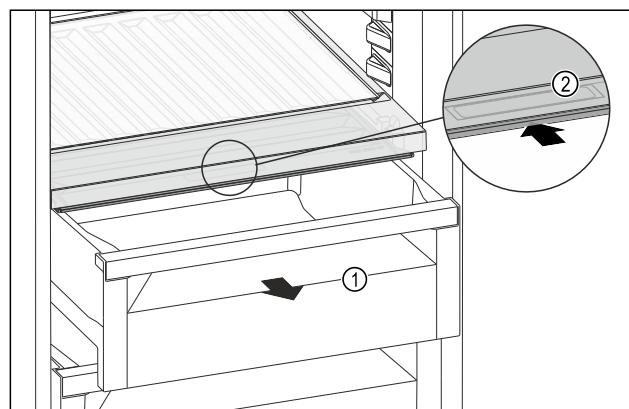

Fig. 148
- ▶ Pull out the drawer Fig. 148 (1).
- ▶ Grasp the recessed grip Fig. 148 (2) on the compartment lid and push the compartment lid backwards at the same time.